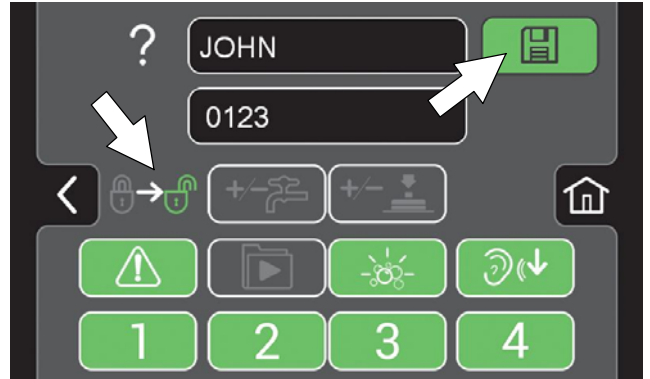

FIG. 174
6. Select the controls the new user should only have access to use (Figure 174). Green represents unlocked controls and gray represents locked controls. Press the flashing save button to save new profile.